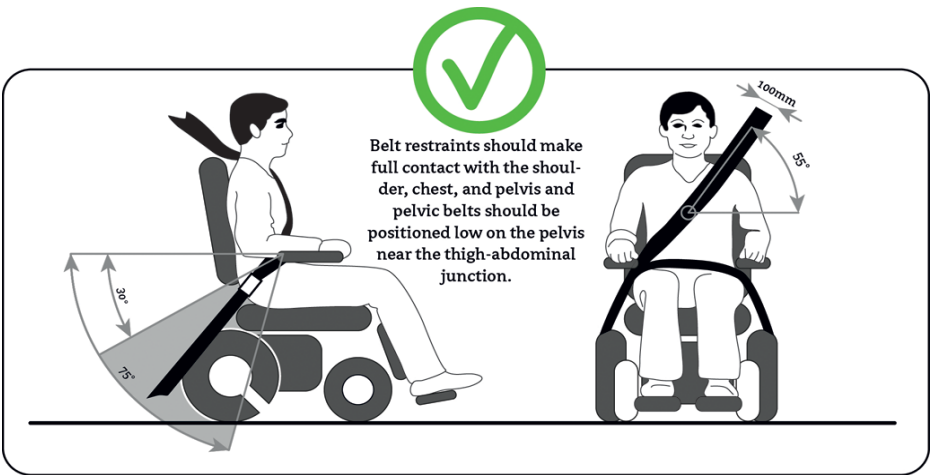

Figure 7.2
- Use a three-point occupant restraint system to secure the occupant of the wheelchair on the pelvis/hips and shoulder. This three-point safety belt must be secured to the roof and the floor of the vehicle (fig. 7.2).
- The other part of the belt is positioned to sit across the chest and shoulder (fig. 7.2).